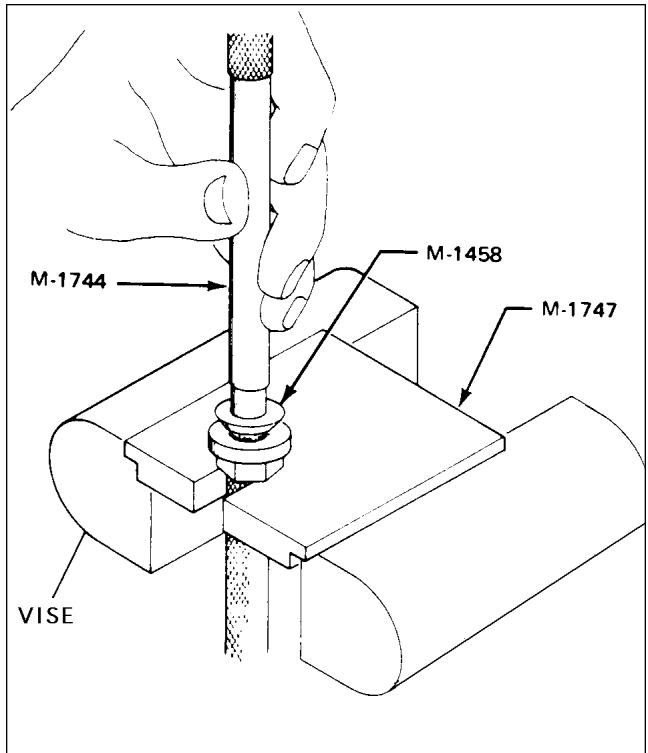

Figure 74-22. Driving Tool
- j. For spark plug end, mount M-1747 drive plate in a bench vise. Set hex ferrule in drive plate slot. Drive M-1458 drive ferrule flush against the hex ferrule using the M-1744 drive tool. Refer to Figure 74-22.